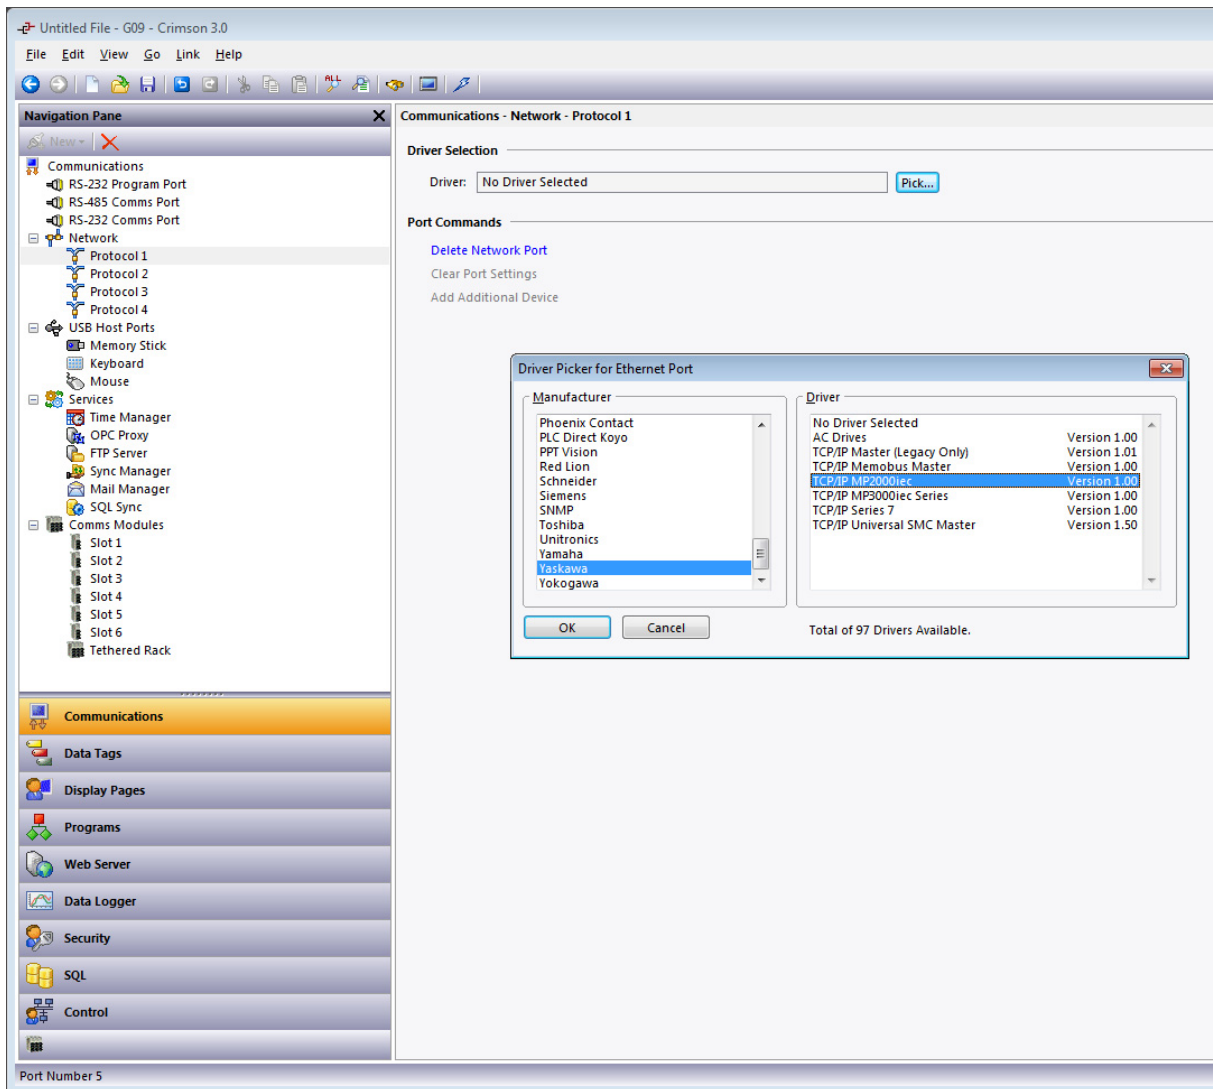

Figure 2.
3. From the Navigation Pane, select Protocol 1; the Driver Picker for Ethernet Port popup is displayed, as shown in Figure 2.